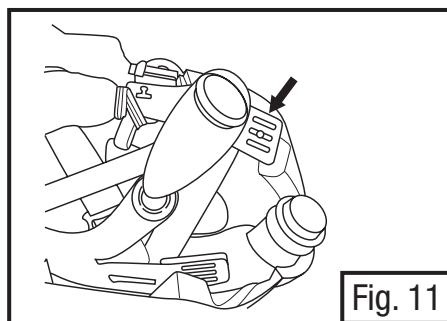

Fig. 11
- Release the suspension from the headgear by pulling the height adjustment slot off the peg at each of the four attachment points. Fig. 11 points to one of the attachment slots. There are 2 in the rear and 2 in the front of the headgear.
- Install new suspension by snapping each of the four height adjustment slots onto the four pegs on the headgear shell. **Note:** See *Donning and Fitting* section of these *User Instructions* for information on adjusting the suspension for a comfortable fit (Fig. 11).